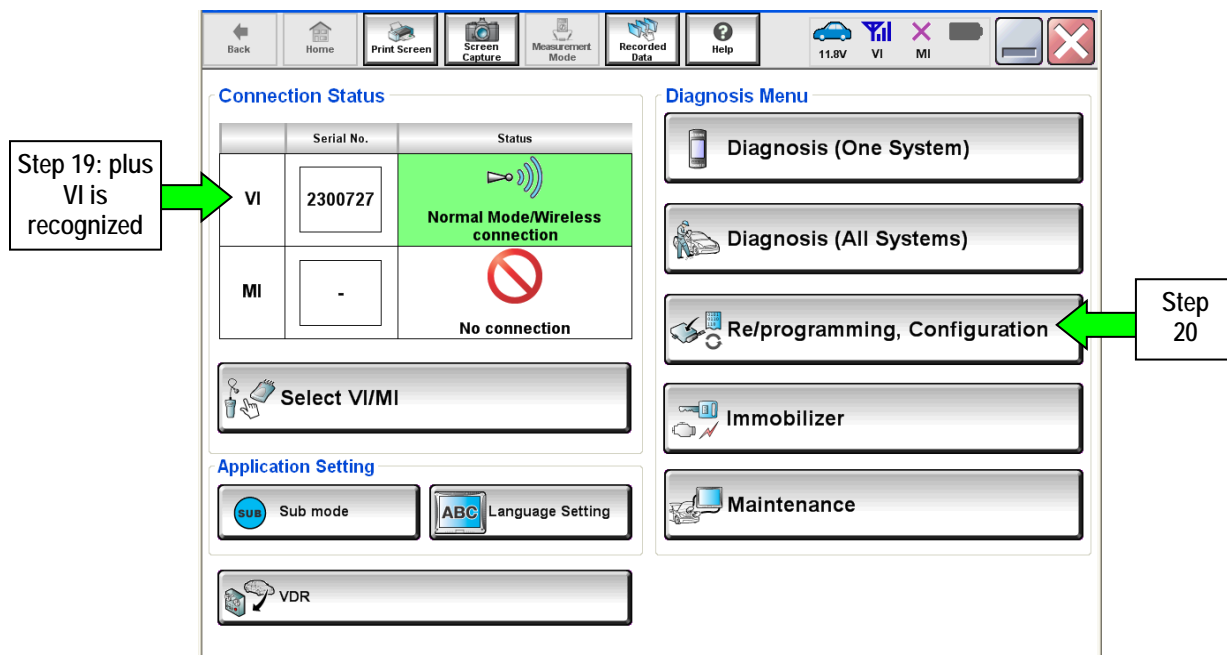

Figure 9
17. Confirm C-III plus is on the Home Screen (see Figure 9).
21. Follow the on-screen instructions and navigate C-III plus to the screen shown in Figure 9 below.
22. When you get to the screen shown in Figure 9, confirm TCM reprogram applies as follows.